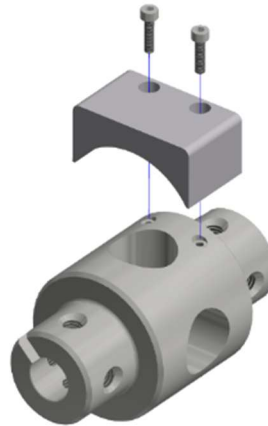

Figure 11-34. Install the Connector Block Structural Replacement (474-6113) to the Upper-Lower Arm Load Cell Structural Replacement (484-6106)
- 11.3.10 Install the Connector Block Structural Replacement (474-6113) to the Upper-Lower Arm Load Cell Structural Replacement (484-6106) using two M2.5 X 0.45 X 10 LG. SHCS (Figure 11-34).